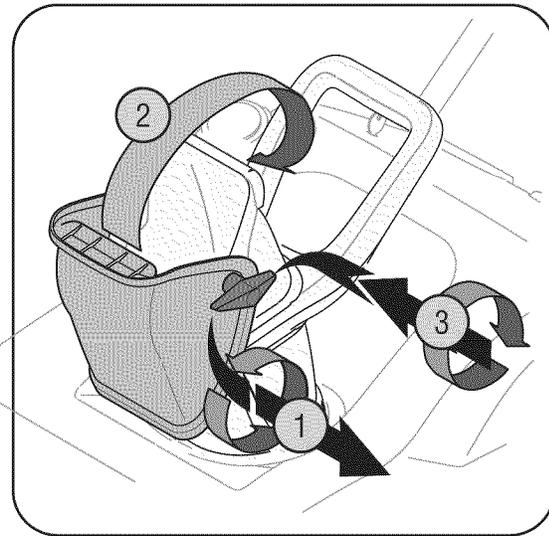

Figure 2
1. Turn the chute until the chute opening is facing straight ahead. Remove the wing knob and carriage bolt from the lower chute. See Figure 2.